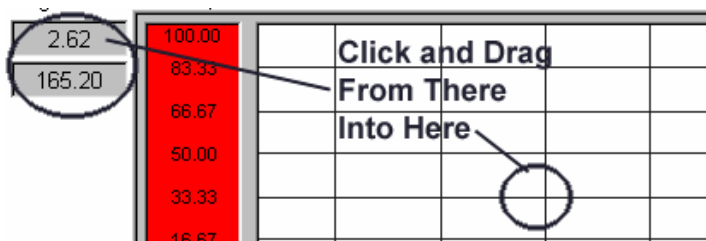

Figure 6.4. Drag Drop Data Source in Runtime
4. Click on the first process point and drag it into the **TrendWorX Viewer ActiveX** window, as shown in **Figure 6.4**. The OPC tag information is added to the **Trend** window, the scale is automatically set, and the data are plotted over time in the trend window.